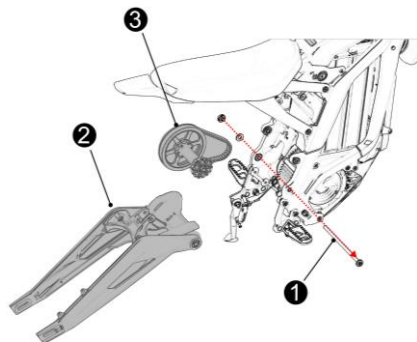

Fig 52
11.23 Dismount rear fork (see Fig 52)